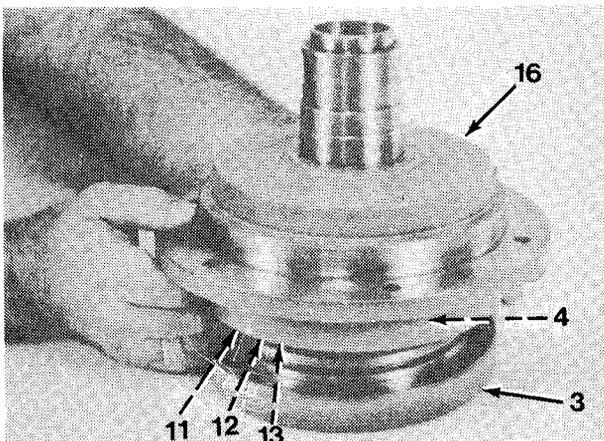

Figure 16-16
13. Depress piston back-up ring (11) to one side to hold pressure plate (12) and die springs (13) in place while brake cylinder (16) is lowered over motor support (3, Figure 16-16).
14. Apply petroleum jelly to entire sealing surface of brake cylinder (16) and seal (4).